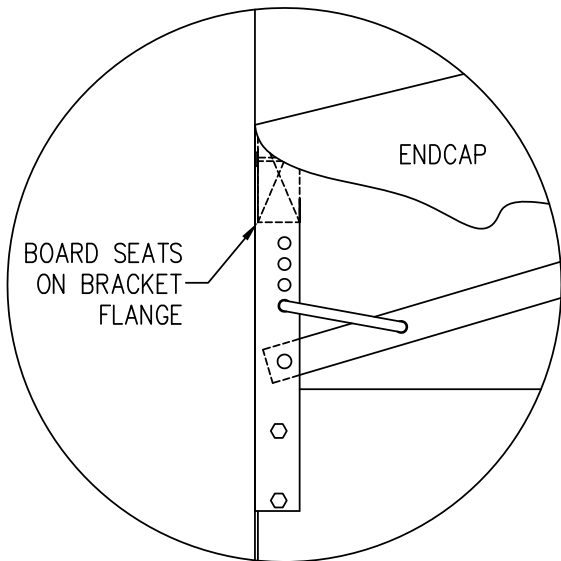

FIGURE 4
9. Position yourself under the middle of the header assembly. Slowly pick up the backer board and position it behind the tabs on the header mounting brackets. Insert one side first, then the other. Then seat both completely. Do not push too hard, mounting bracket is not mounted to wall yet. The backer bar should rest on flange part on the mounting bracket. (See Figure 4)